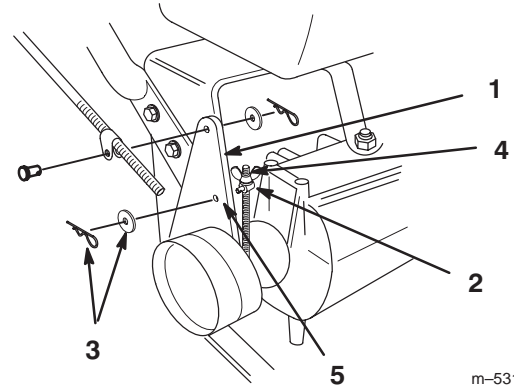

Figure 8
6. If brake adjustment is required, remove hairpin cotter and washer securing brake rod fitting to idler bracket (Fig. 8).
7. Adjust wing nut up or down on brake rod and secure fitting to idler bracket (Fig. 8). Check adjustment and adjust if necessary.